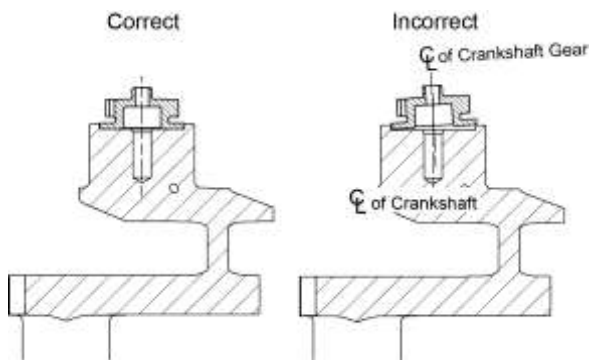

Figure 114
- I. Make sure the crankshaft trigger gear assembly seats firmly and is perpendicular (not at a slanted angle) to the crankshaft as shown in Figure 114: